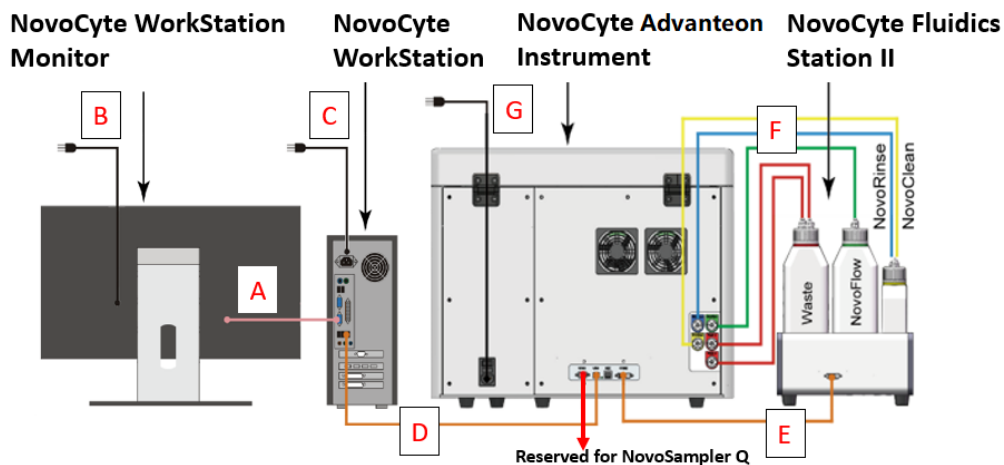

Figure 23. NovoCyte Advanteon Flow Cytometer System Connection
Figure 23 illustrates the typical connection of the NovoCyte Advanteon flow cytometer system. Please follow the instructions below to install each component.
- 1 Connect the workstation to the monitor using the included DisplayPort to Mini DisplayPort cable (Connection A in Figure 23). Connect the DisplayPort end of the cable to the back of the workstation. Connect the Mini DisplayPort end to the monitor.
- 3 Use the supplied USB cable to connect the NovoCye Advanteon flow cytometer to the USB port of the NovoCye Workstation (Connection D in Figure 23).
- 4 Connect the workstation and monitor to the power supply (Connections B and C in Figure 23). For more details, please refer to the instructions from the computer and monitor supplier.
NovoCye Fluidics Station II is connected to the COM 2 port of the NovoCye Advanteon instrument through the supplied DVI cable (Connection E in Figure 23).
Connect the NovoCytte Advanteon instrument to a power supply (100-240 VAC, 50-60Hz) by connecting one end of the supplied power cord to the power port on the instrument (Connection G in Figure 23), and connect the other end of the power cord to the power supply.